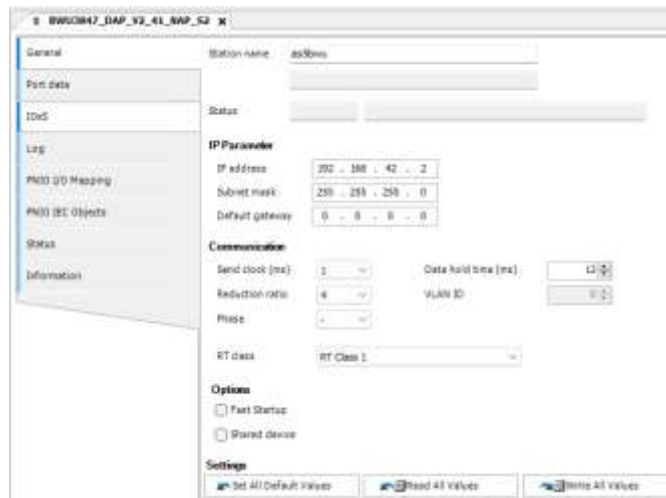

Figure 36. General Configuration PROFINET Gateway
- c. Set the device parameters according to Figure 36.